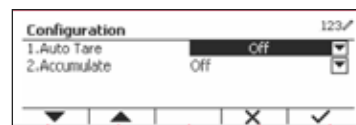

Figure 71
- Select the list item and press the softkey corresponding to the  icon to change settings as desired. (See Figure 71)